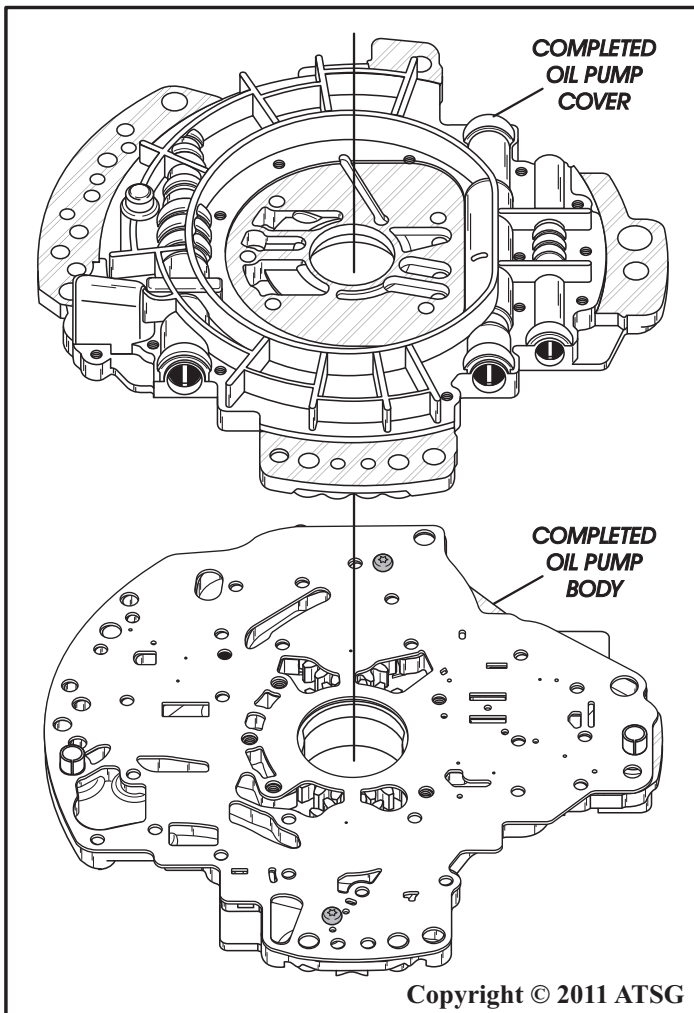

Figure 115
13. Install completed oil pump cover onto completed oil pump body and over the alignment dowels, as shown in Figure 115.